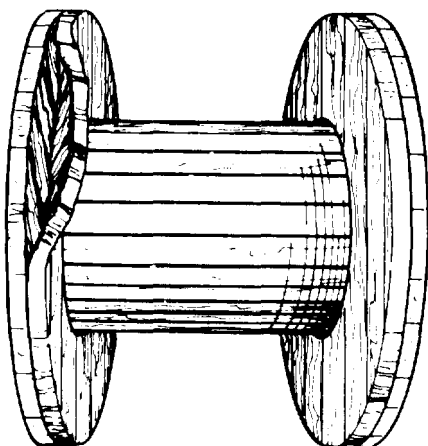

Figure 4-46. *Damaged Reel*
3. Damaged reel: When a reel has been damaged in transit, it is a safe assumption that irreparable damage has been done to the rope (Figure 4-46).